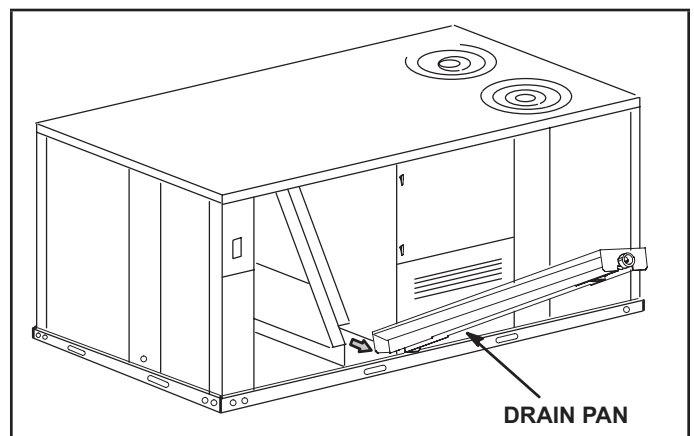

FIGURE 7
5 - Lift front edge of the drain pan (to clear bottom drain plug) and slide drain pan out of unit. See FIGURE 7.
- 5 - Lift front edge of the drain pan (to clear bottom drain plug) and slide drain pan out of unit. See FIGURE 7.